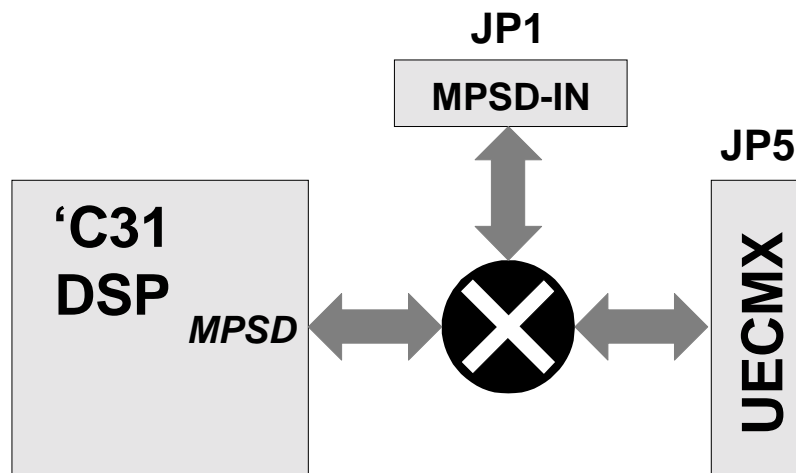

Fig. 2-15. On-board MPSPD emulation path of *TORNADO-31/31Z*.
*TORNADO-31/31Z* on-board MPSPD path is presented at figure 2-15 and comprises of TMS320C3x MPSPD emulator port, emulator multiplexer (E-MUX), MPSPD-IN connector (JP1) and dedicated site for *UECMX* emulator DCM (JP5).